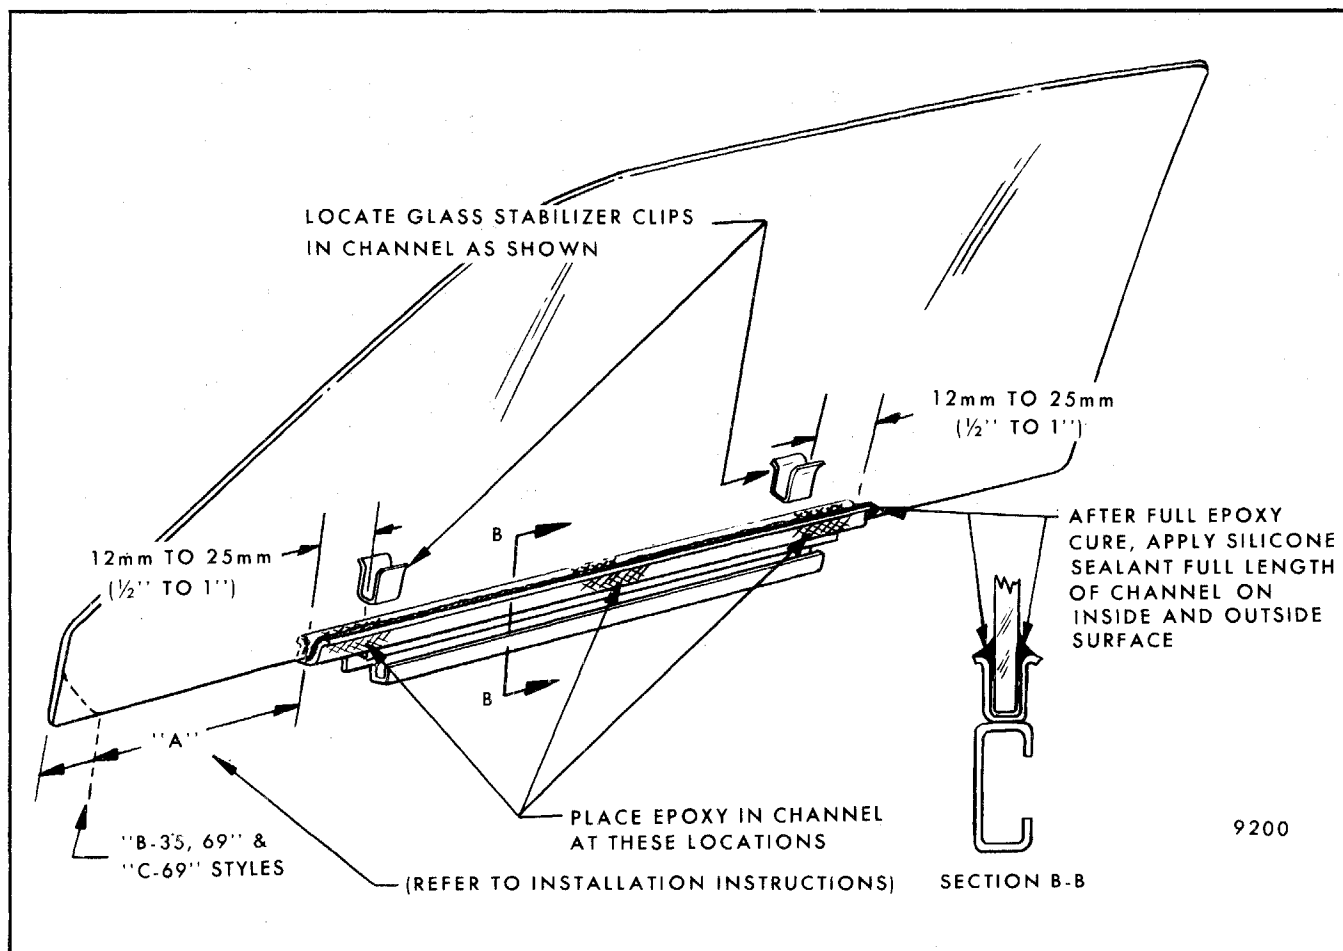

Fig. 5-56-Glass to Sash Channel Bonding
1. If replacement glass is being installed, locate the front of sash channel to lower front edge of glass (Dimension "A" in Figure 5-56) as follows:
2. To bond channel to glass, a two-part adhesive such as 3M Structural Adhesive No. 8101, Loctite Clear Epoxy, Loctite Fast Cure Epoxy 45 or equivalent is required. Thoroughly mix approximately one and one-half tablespoons (two Loctite mixer cups) of adhesive per package instructions. Place adhesive into channel at three locations indicated in Fig. 5-56.
5. After adhesive cure, flow a thin bead of silicone adhesive such as Dow Corning RTV 732 Silastic, 3M Super Silicone part no. 8661 or equivalent the full length of channel surface to prevent water entrapment in channel (Fig. 5-56).